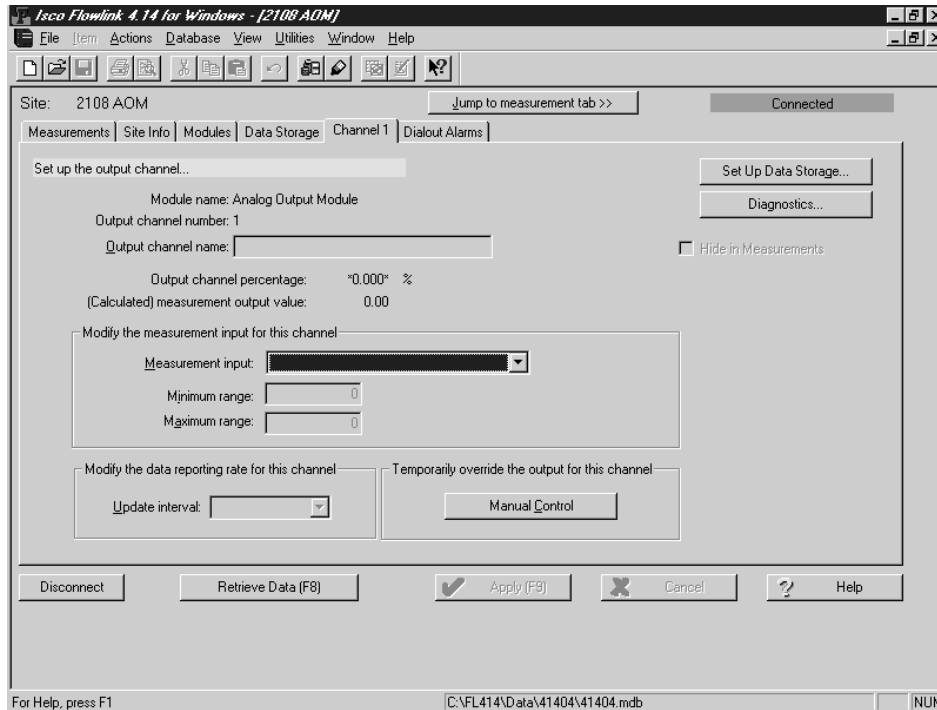

Figure 2-7 Channel 1 Setup Screen in Flowlink
2. From the Measurements tab, select Channel 1. The screen shown in Figure 2-7 will be displayed.